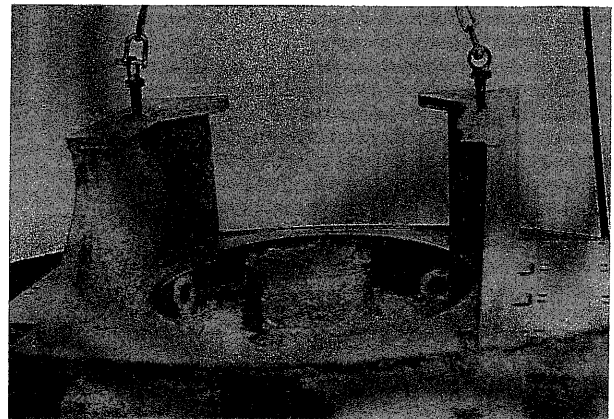

Fig. 74
- 1) SV91T, SV91D & SV91DP . . . . . Remove bolts (15) and remove axle (14). (Fig. 74)